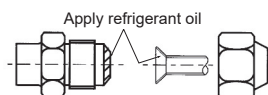

Fig. 7-2
- (3) Apply refrigerant oil on the flared seat. (Fig. 7-2)